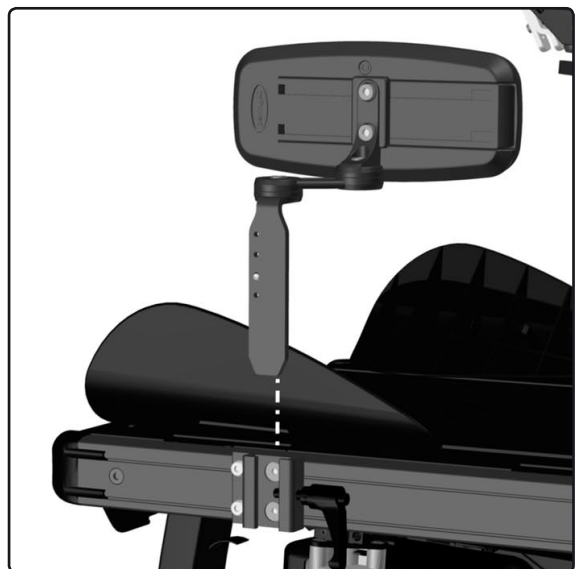

Fig. 3. Angle and depth adjustment.
5. Slide the upper bracket down into the lower one to the required height, and if necessary move the screw that acts as a height stop to a suitable position. (Fig. 3)
8. Adjust the angle and depth by loosening the two joint screws. Place the thigh support in the required position and tighten the screws (fig. 3).